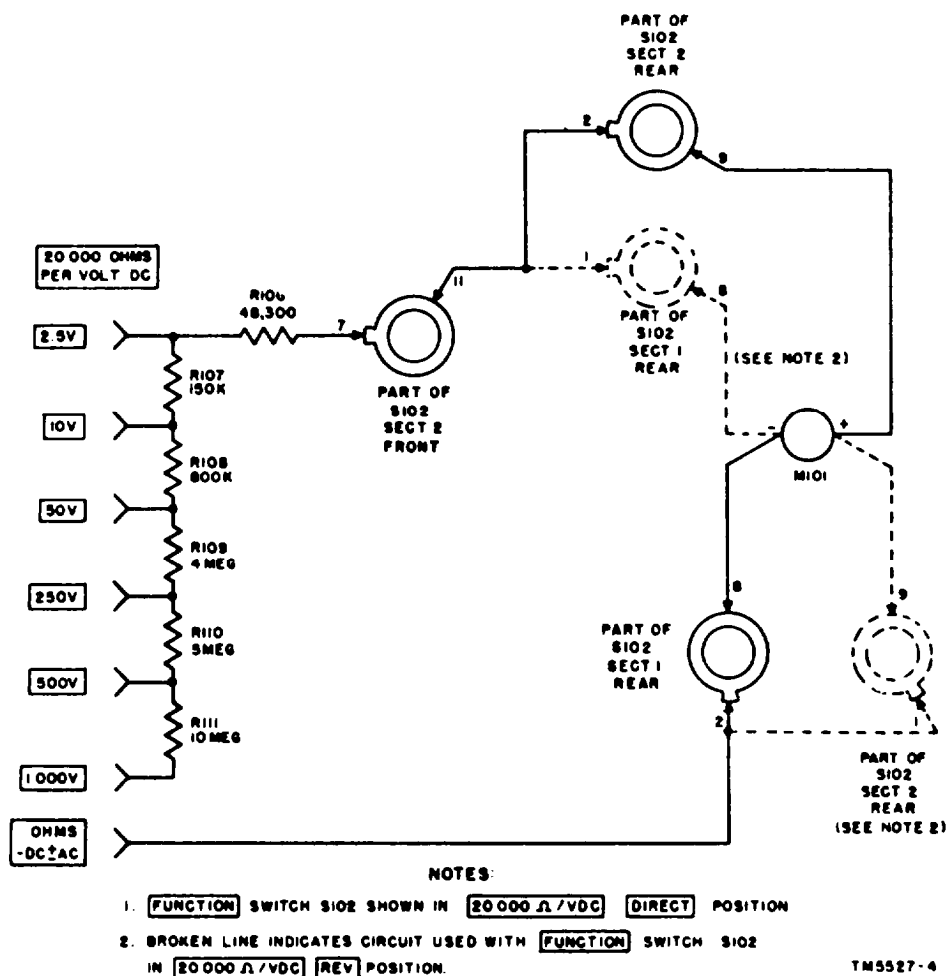

Figure 4-3. Dc voltmeter circuit (20,000 ohms per volt), simplified schematic diagram.
4-3. Dc Voltmeter Circuit (20,000 Ohms Per Volt) (fig. 4-3)
- (1) With the application of a dc voltage between the 1000V jack, and the OHMS — DC \pm AC jack, current flows through the meter and through the series-connected multiplier resistors R106, R107, R108, R109, R110, and R111.
- (2) With FUNCTION switch S102 in the 20000 Ω /VDC DIRECT position, the terminals of the switches shown in figure 4-3 are connected in a circuit arrangement that directs the current through the meter, as shown by the solid lines.
- (3) With FUNCTION switch S102 in the 20000 Ω /VDC REV. position, the circuit is so arranged that multi meter jacks marked with the voltage values are connected to the *negative* side of the voltage source. Current flow through meter M101, however, remains in the same direction. This current path is shown in figure 4-3 as a broken line portion of the entire circuit.